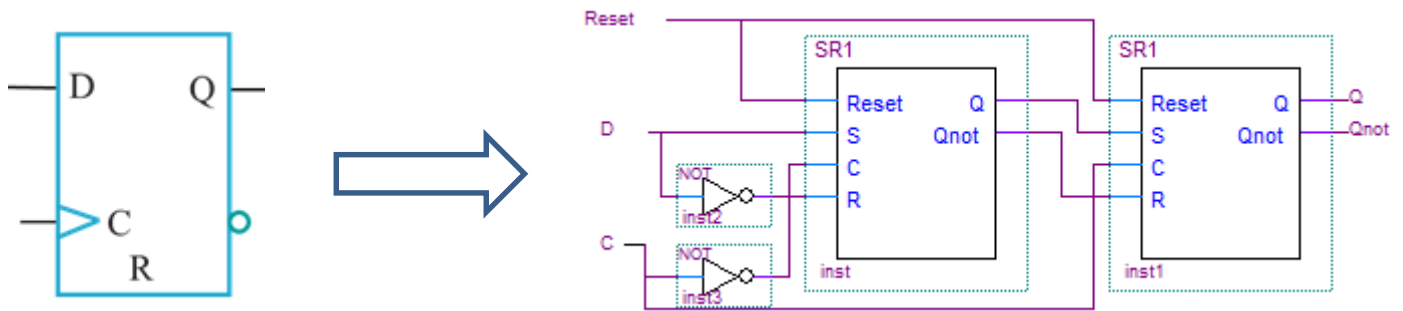

Figure 2: D-FF Implementation
2. Inside the **dff1.v** file, write a **structural** Verilog module to implement the D-FF circuit given in Figure 2. You need to use the clocked SR-latch module defined in **SR2.v** and the basic gate modules defined in **lib.v**.